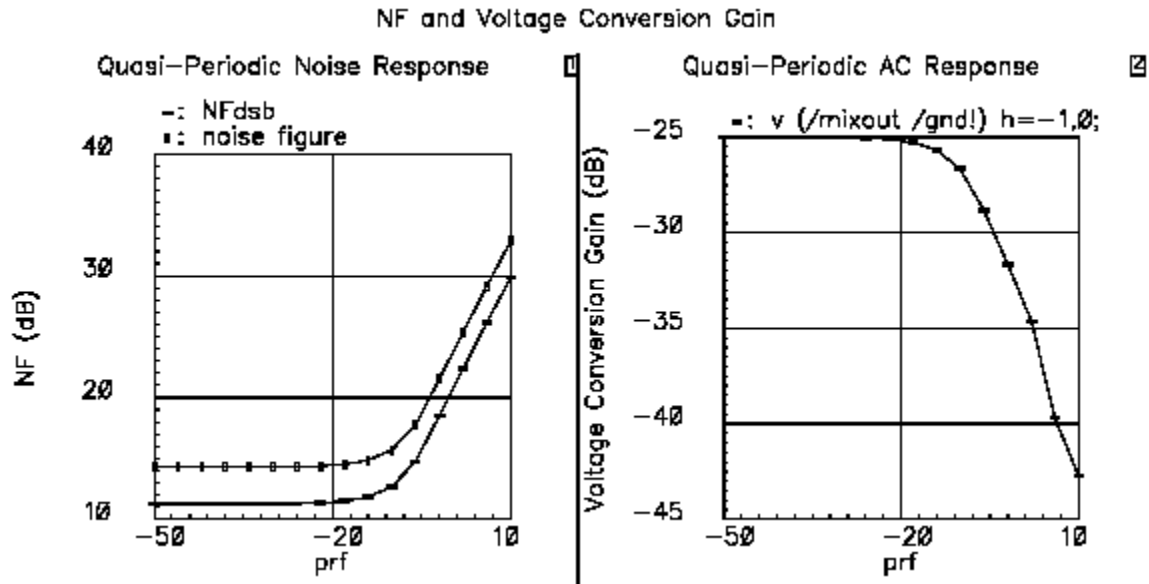

Fig 13: Voltage Conversion Gain & NF in presence of Blocking Signal
- View the results as shown in Fig13